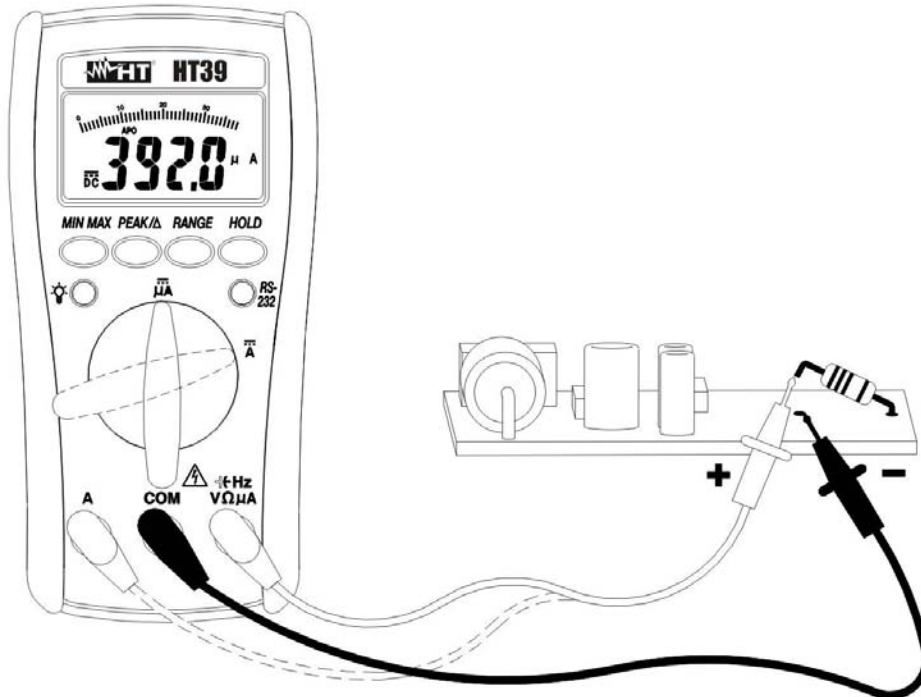

Fig. 5: DC Current measurement
3. Insert the red test lead into **A** jack and the black plug into **COM** jack (Fig. 5).
4. Connect red and black plugs in series with the circuit under test respecting the polarity and current flow indicated in Fig. 5.
8. The symbol "-" on the display means that current has opposite direction than shown in Fig. 5. Press **RANGE** key for manual range only active in mA position of the rotary selector.